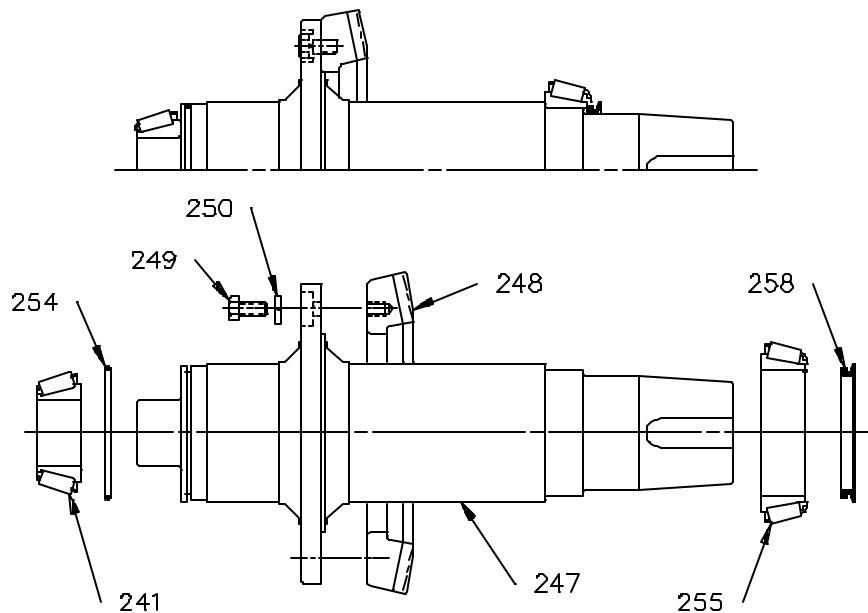

Figure 2: Output Shaft Assembly [246]
14. Install a 1/2-13 eyebolt in the end of output shaft [247]. Lift the output shaft assembly (*Figure 2, page 5*) out of the housing.